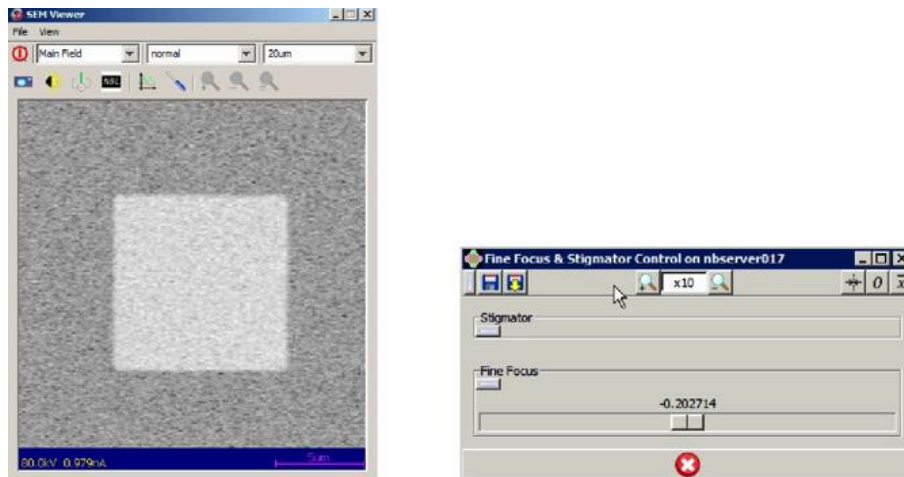
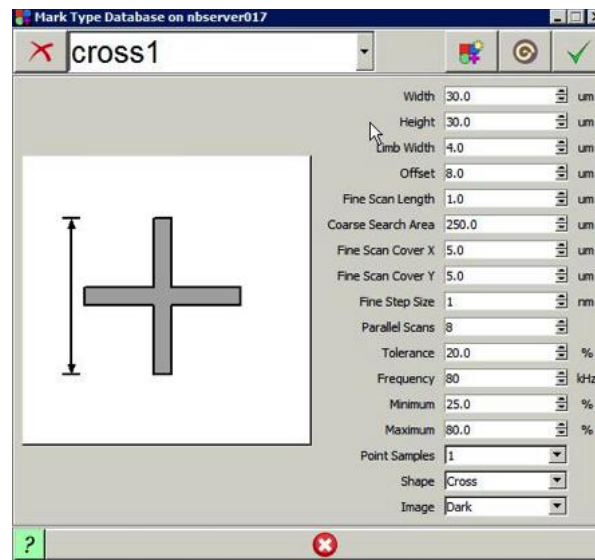

Figure 8. SEM view and fine focus control.
Figure 9. Mark Type Database
expected to be. Zoom out selecting the largest field size. Press the **On/Off** button to turn on/off the beam (Figure 8). Press the **Auto Brightness** button to adjust the contrast and brightness. Remember that the view in the SEM is flipped both vertically and horizontally with respect to what you could see while loading the sample; for instance the top right corner of the chip when loading, will be viewed as the bottom left corner at the SEM. Always remember to turn the SEM off when not used, in order to minimize unwanted exposure of the sample (avoid moving the stage when the SEM is on).
- 3.4. According to your job file (regarding the focusing and registration options) you might need to use the automatic procedure and the database containing the various mark types. Select **Mark Type Database** from the main tool bar and choose the type of alignment mark you centered on in the previous step. In the naming convention, 'b' means bright for bright contrast, e.g. metal marker (Figure 9). Now in the terminal type **af [markname]** to autofocus on the mark. This is an optional step, in case you want to perform directly the automatic focusing on the mark. Otherwise a fully automatic procedure is included in the registration option of the job file (for details see section "how to create a job" regarding mark type and registration). Also you can repeat [af markname] a few times or verify by manually checking the focus with **Focus Control** button from the main tool bar and adjusting the knob (mind the multiplier at the top) in order to find the right focus (Figure 8).